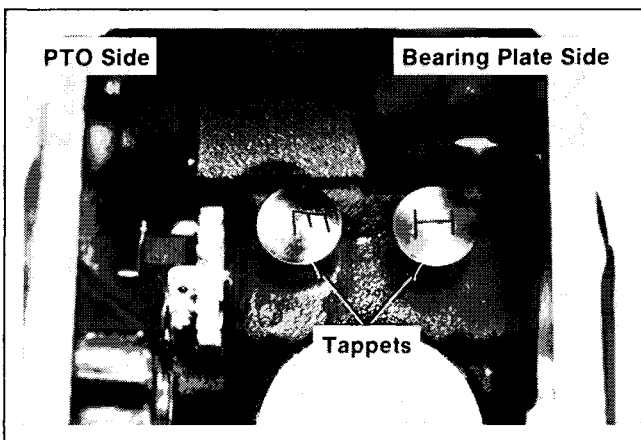

Figure 12-4. Installing Tappets
1. Install the intake valve tappet and exhaust valve tappet into crankcase. (Intake valve tappet towards bearing plate side; exhaust valve tappet towards PTO side of crankcase.) Refer to Figure 12-4.
- Align the primary timing marks on balance gears with the teeth on timing tool. Insert the tool so it meshes with the gears. Hold or clamp the tool against oil pan gasket surface of crankcase. Refer to Figure 12-4.